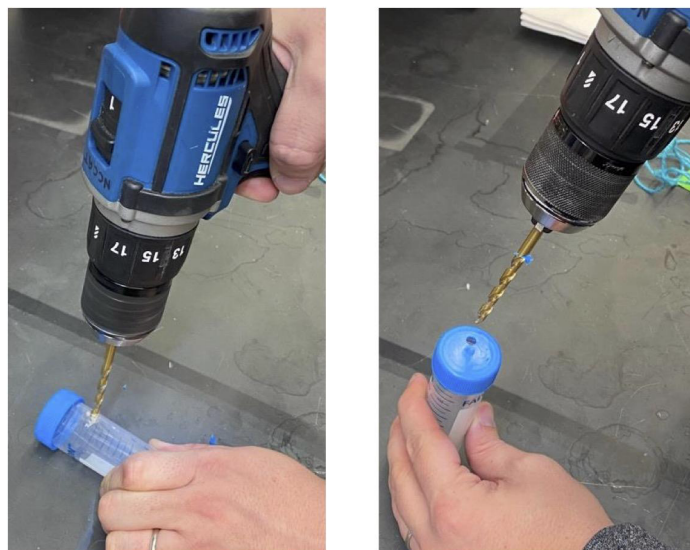

Figure 2. A power drill will make holes in a 50 mL conical tube easily. Use some pressure to break
- 4.2.1.1. Prepare the conical tube by drilling holes into the side and lid for ventilation. LN₂ expands ~700 times in volume when it boils into gas. Without ventilation holes, your tubes may explode, leading to potential injury and loss of samples. Holes are easy to make with a power drill (Figure 2). If you don't have a power drill, a screwdriver or other sharp object used with sufficient force are effective.